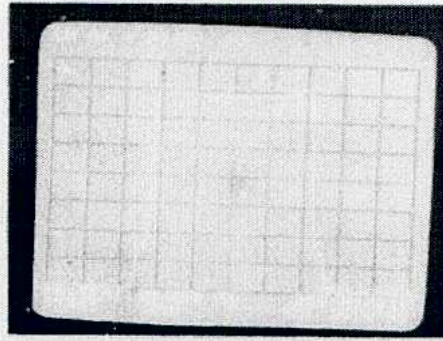

Figure 3-22. Spectrum of an FM Passband.
d. Press the PEAK average button to ON. At the end of 256 averages, the FM passband should appear as in Figure 3-22. This shape describes the maximum amplitude of the spectral line as it sweeps between maximum and minimum frequency.